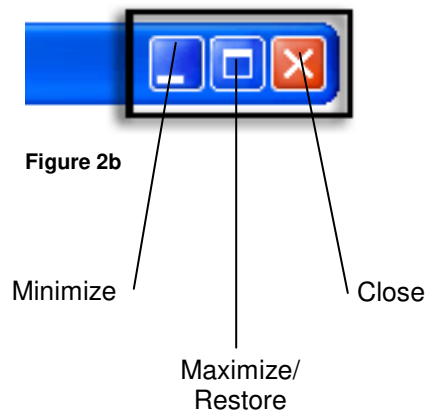

Figure 2b
**Minimize** – Clicking this button ‘hides’ the open program and reduces it to a button on the start bar (Figure 2b).
**Maximize/Restore** – expands program window to fit the size of the entire screen. If the program is already expanded, clicking here will shrink the screen to a smaller window (Figure 2b).
**Close** – closes the active program window (Figure 2b).